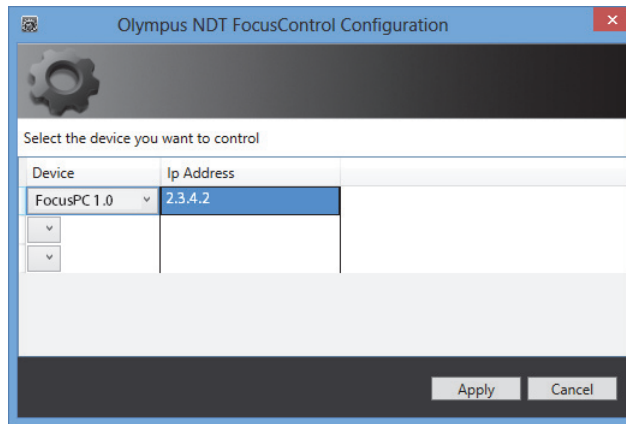

Figure 3-20 Configuring for FocusPC
7. Under **IP Address**, type the IP address of the remote computer in the box, as defined in step 4, and then click **Apply** (see Figure 3-20 on page 65).